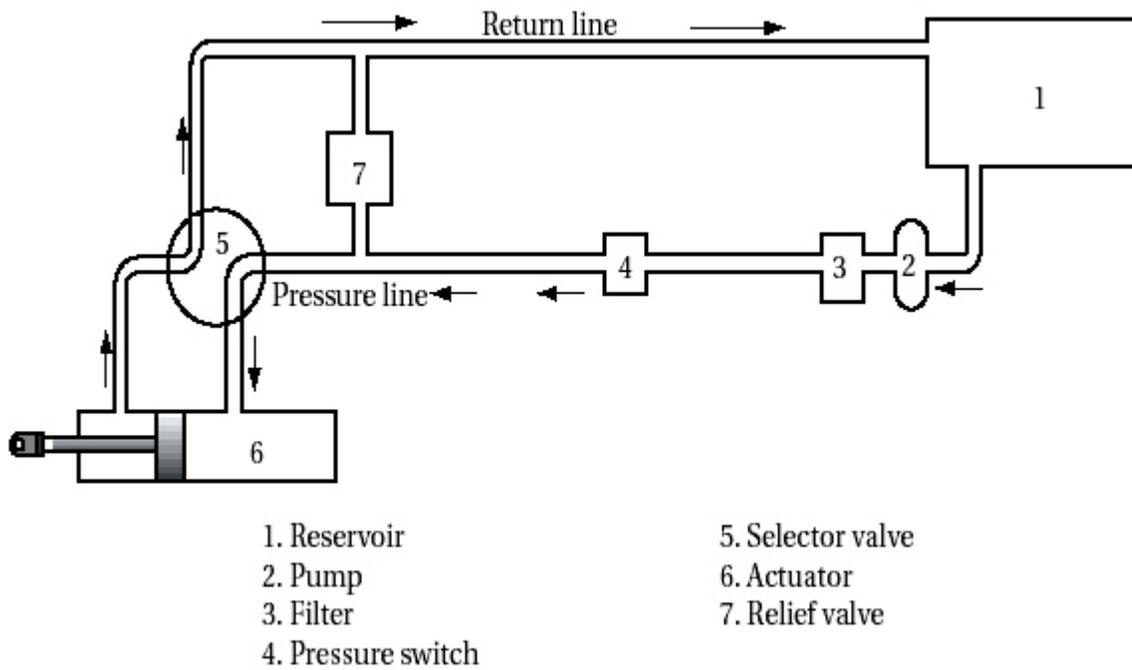

Figure 3-1 Typical Dual-Acting Hydraulic System (Pictorial Schematic)
Using the Figure 3-1, we can see the components and how they relate to each other to form a dual-acting hydraulic system. There is a supply line from the reservoir (1) through a filter (2) to the inlet of the pump (3). A pressure line comes out of the pump and goes through a pressure switch (4) to the selector valve (5). The lines going to and coming from the selector valve to the actuator (6) are going to alternate between pressure and return and therefore will be called the working lines. There will be pressure lines in one direction of the actuator and return lines in the other. The line going from the selector valve to the reservoir is always a return line. Remember, pressure lines are always pressure lines and return lines are always return lines, working lines alternate between pressure and return. Working lines are sometimes names by what they do when they are under pressure. “Up line,” “Down line,” “Extend line,” “Retract line,” etc.